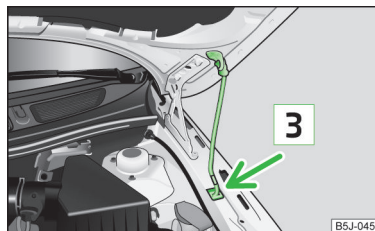

Fig. 133
- Take the bonnet prop out of its bracket and secure the opened bonnet by inserting the end of the prop in the opening **3** » Fig. 133 provided.